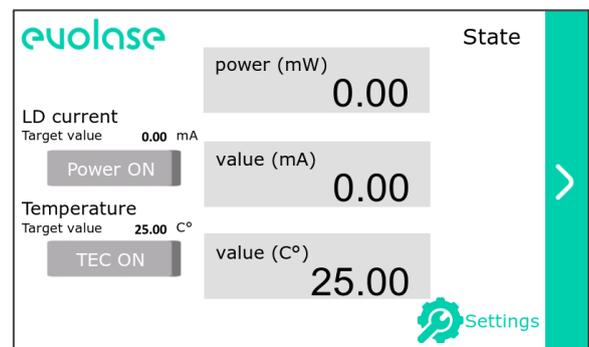

Figure 2 – CW driver menu
4. In CW driver menu that appears (fig.2), press to go to the settings menu